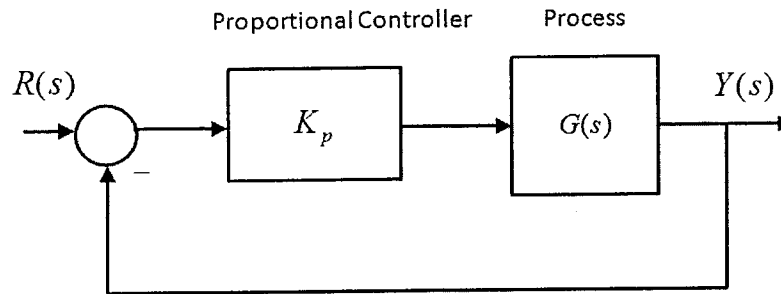

Figure Q1.1
Consider a unit feedback control system under Proportional Control (gain K_p), shown in Figure Q1.1. Your task is to investigate the stability of the closed loop system in the frequency domain by applying the Nyquist Criterion of Stability to find:
2. The range (or ranges) of safe operating gains for the Proportional Controller in Figure Q1.1.
Consider again the unit feedback control system under Proportional Control (gain K_p), shown in Figure Q1.1, where the process $G(s)$ is described by the following transfer function:
2. The range (or ranges) of safe operating gains for the Proportional Controller in Figure Q1.1;